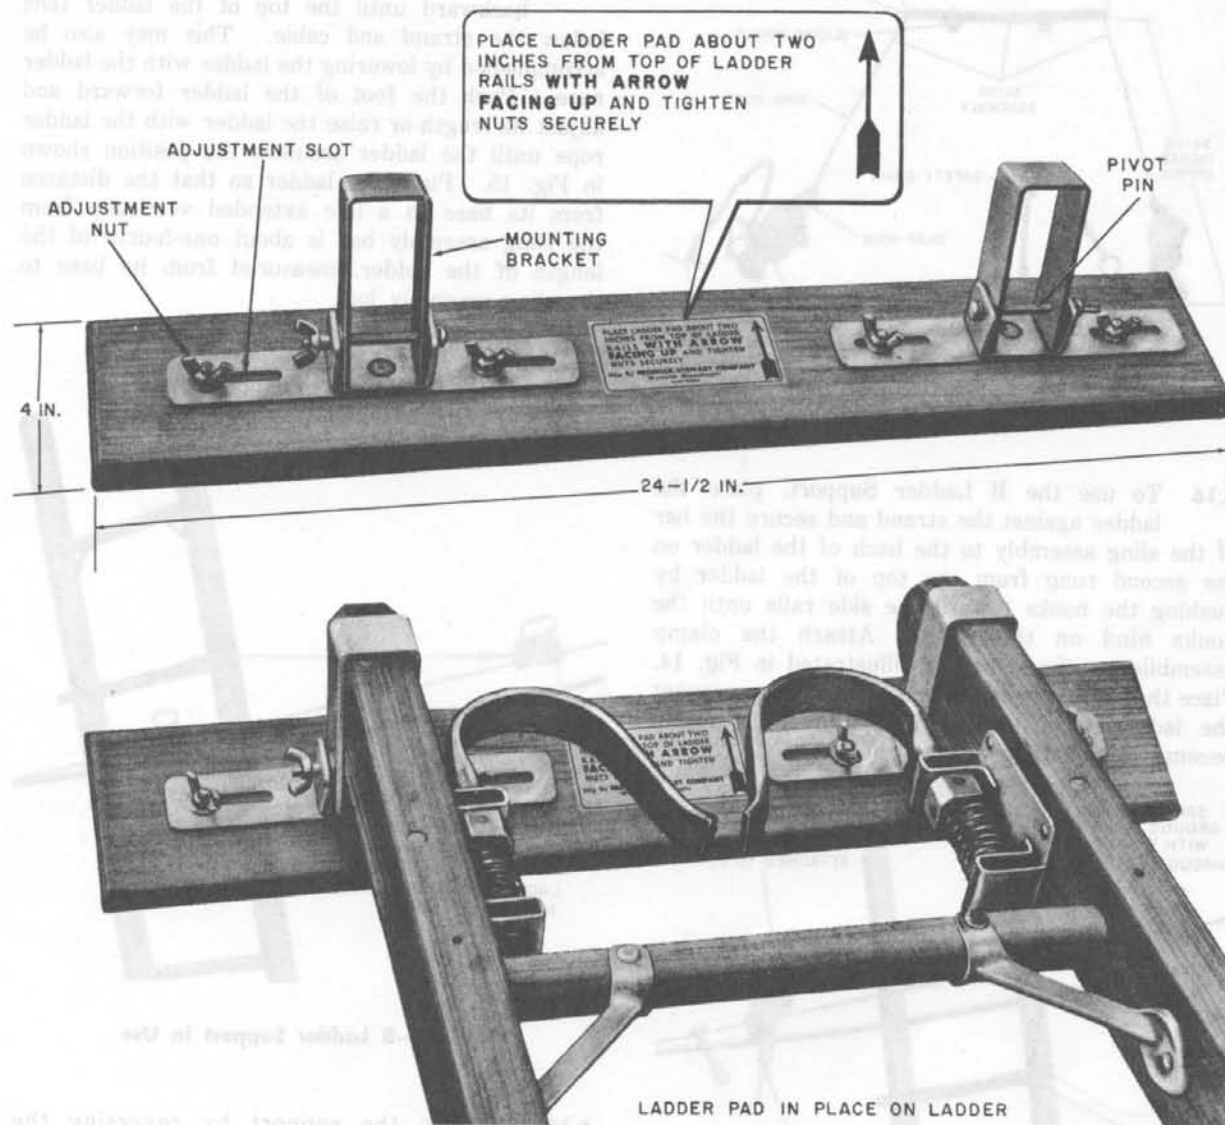

Fig. 12—Ladder Pad
- 6.13 To prevent possible damage to a building having fragile siding, such as enameled aluminum, asbestos, etc, attach a **Ladder Pad** to the top section of the ladder before it is placed against the structure. The Ladder Pad is 4 inches wide by 24-1/2 inches long (Fig. 12). The distance between the mounting brackets on the pad can be adjusted so that the pad can be attached to any standard ladder. The brackets pivot to ensure proper contact between the pad and the surface of the structure.